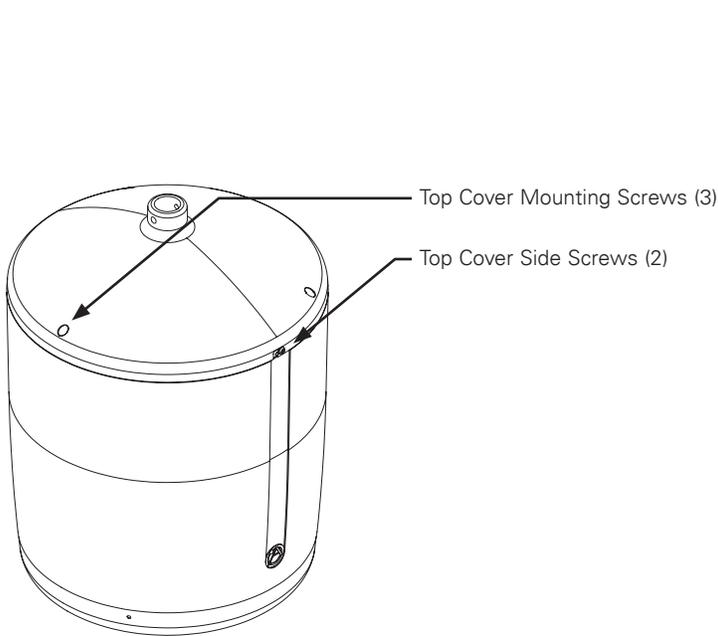

Figure 1
1. Rotate the top cover counterclockwise and pull up to remove. (Figures 1 and 2)